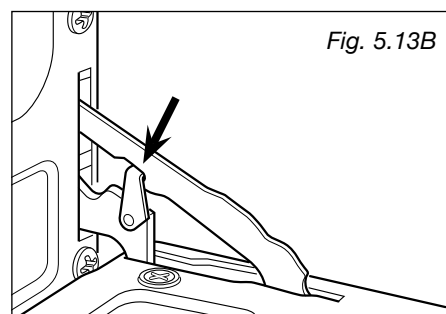

Fig. 5.13B
- Attach the retaining rings to the hooks on the left and right hinges (fig. 5.13B).